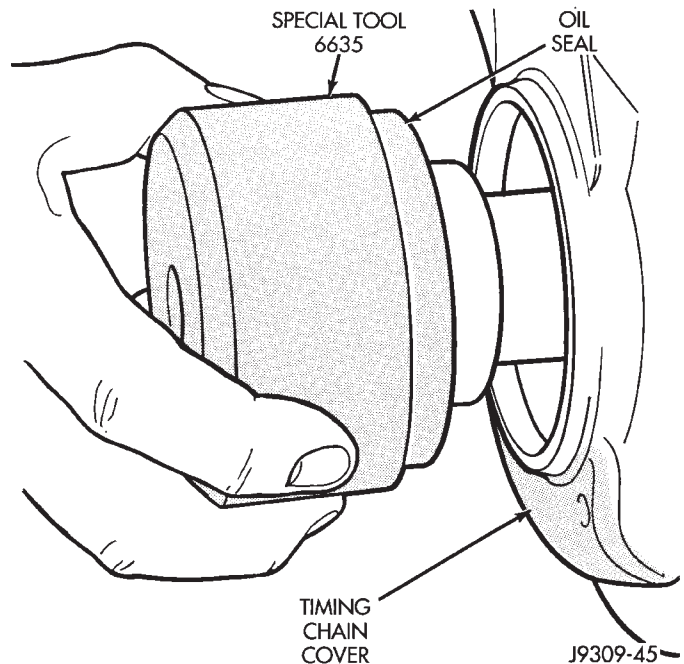

Fig. 28 Position Tool and Seal onto Crankshaft
(4) Position the seal and tool onto the crankshaft (Fig. 28).